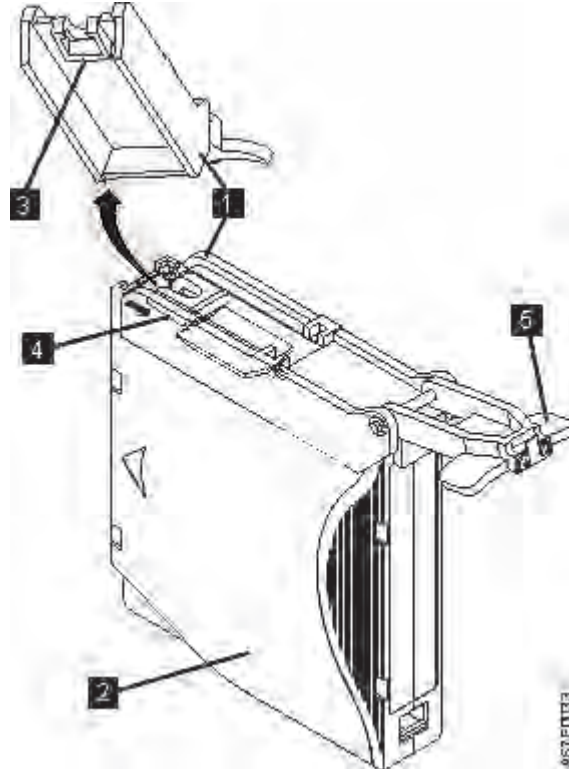

Figure 106. Attaching the leader pin attach tool to the cartridge
1. Attach the leader pin attach tool (1 in Figure 106 on page 236) to the cartridge (2) so that the tool's hook (3) latches into the cartridge's door (4). Pull the tool back to hold the door open, then slide the tool onto the cartridge. Open the tool's pivot arm (5).